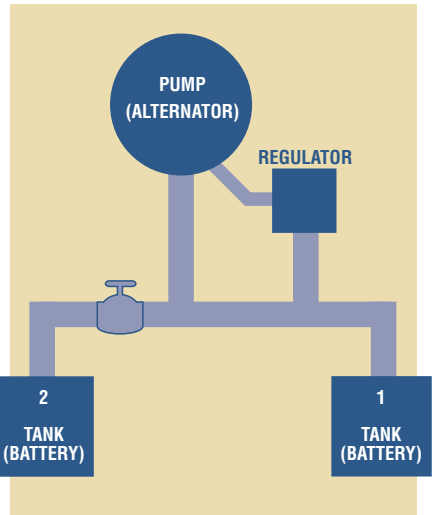

Figure 3
4.3 To correct this situation, a *VALVE* in *TANK* line #2 may be installed so that flow may be blocked from #1 *TANK* when #2 is being used. To correct this situation, a *SWITCH* in battery line #2 may be installed so that circuit flow may be blocked from #1 battery when #2 is being used (See figure 3).